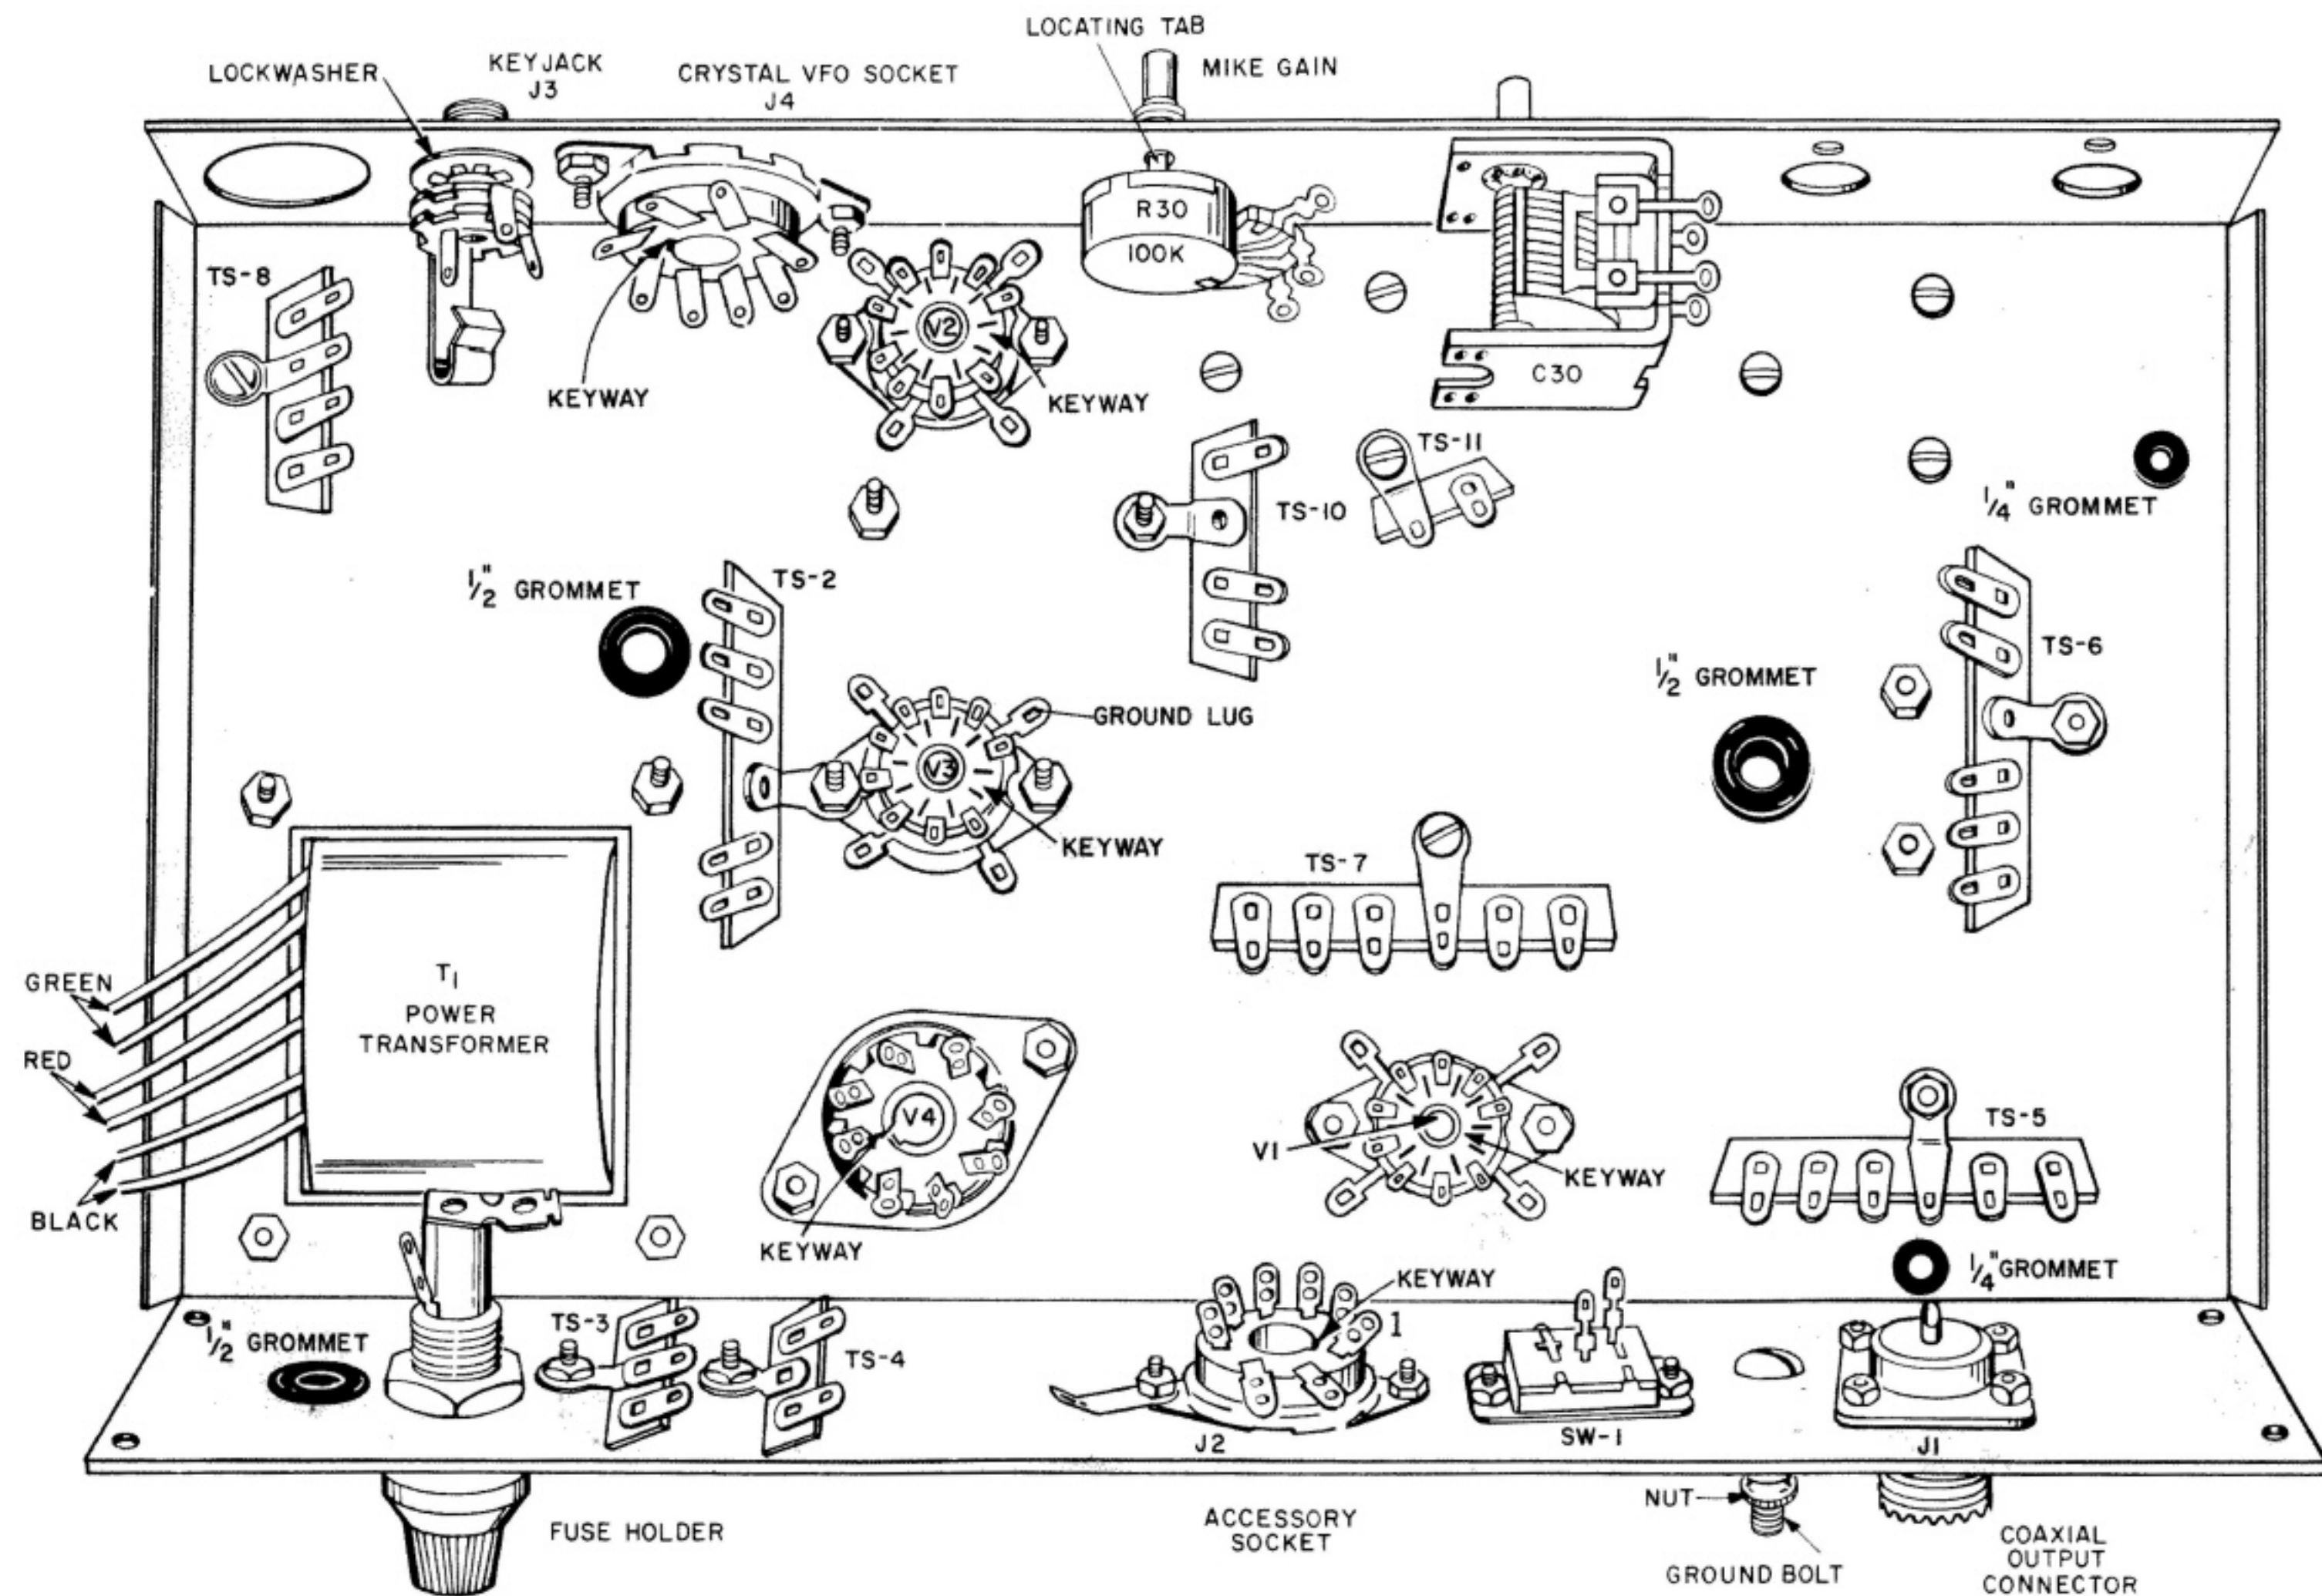
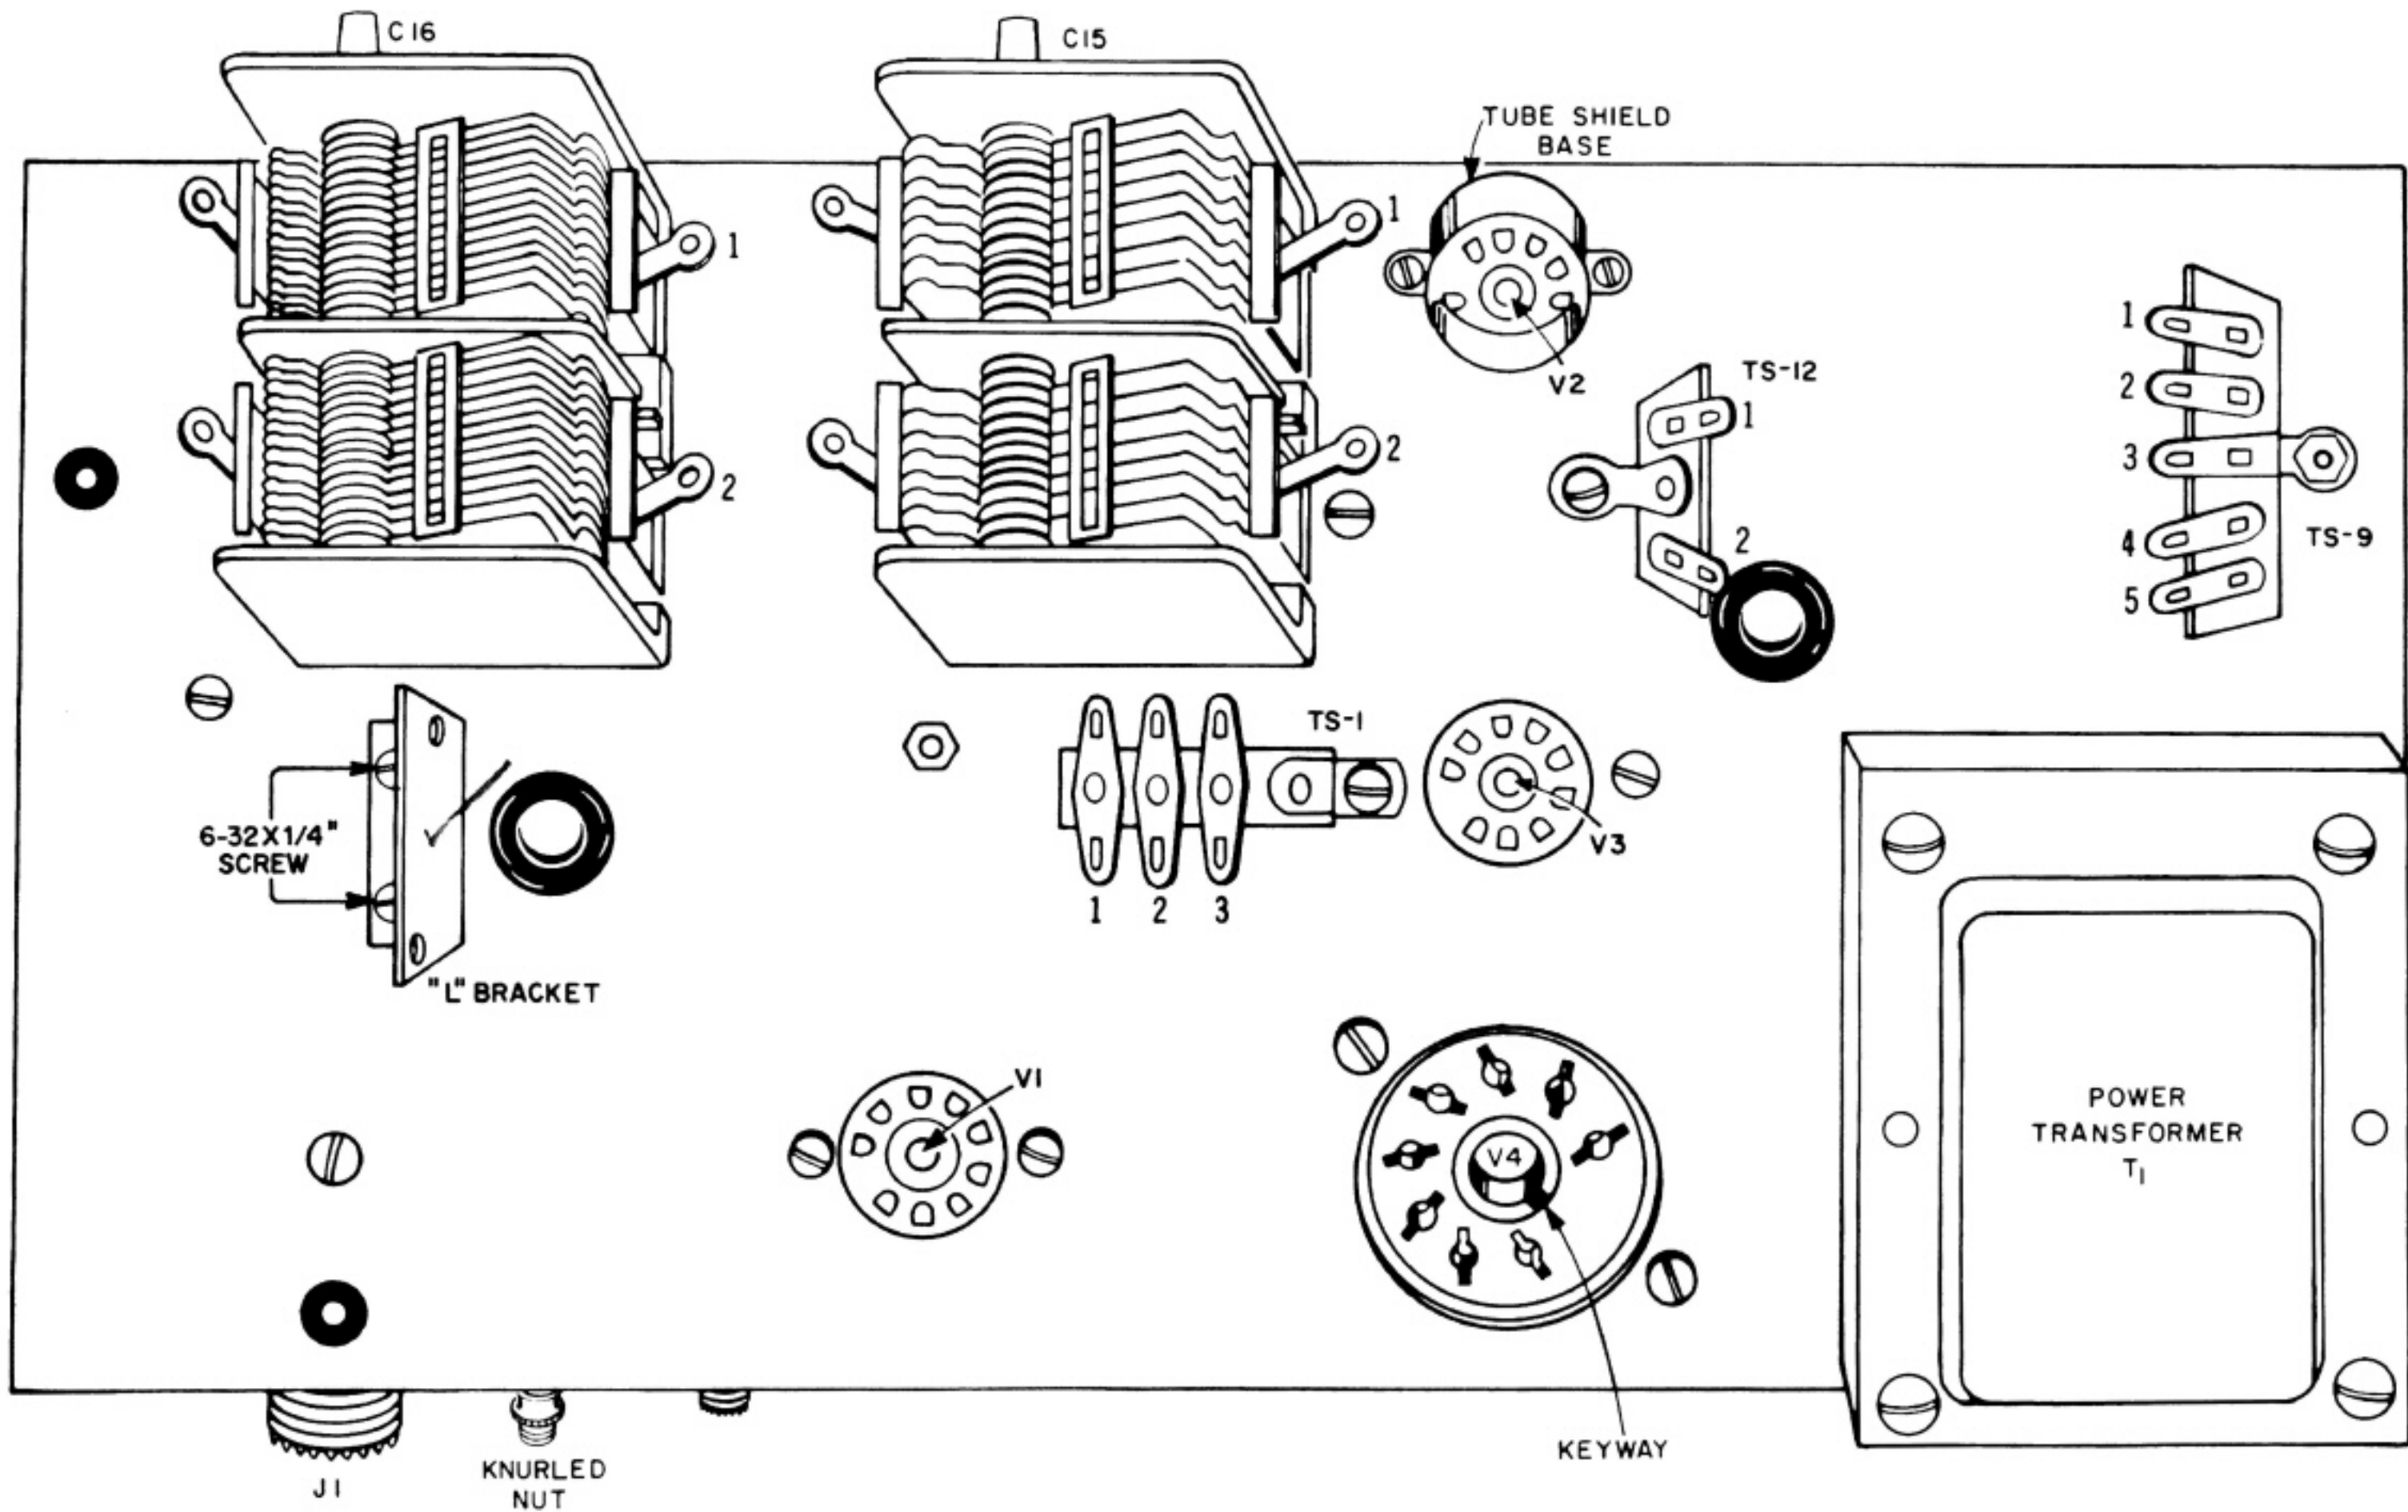

FIGURE 2
FIGURE 6
### SEE FIGURES 2 AND 6
**NOTE:** It is sometimes helpful to write the part symbol on the chassis with a soft pencil or crayon. Make sure the tube sockets and terminal strips are positioned exactly as shown in Figure 2.
- ☐ J2, 8-pin accessory socket, and solder lug. Position the socket with the keyway as shown in Figure 2. Place the solder lug between the socket and lockwasher at the point shown and fasten with two  $6-32 \times \frac{1}{4}$ " screws, lockwashers, and nuts.
- ☐ SW-1 slide switch. Mount so terminals are positioned as shown in Figure 2. Fasten with two  $6-32 \times \frac{1}{4}$ " screws, lockwashers, and nuts.
- ☐ C-15, 2-gang, wide-spaced variable capacitor; and TS-11, 2-terminal strip. Position the capacitor on top of the chassis. See Figure 6. Insert a  $6-32 \times \frac{1}{4}$ " screw through TS-11 and fasten to the capacitor as shown in Figure 2. Thread a  $6-32 \times \frac{1}{4}$ " screw into the two remaining holes in the capacitor. Place a lockwasher under each screw.
- ☐ C-16, 2-gang variable capacitor. Position as shown in Figure 6. Fasten with three  $6-32 \times \frac{1}{4}$ " screws, and lockwashers.